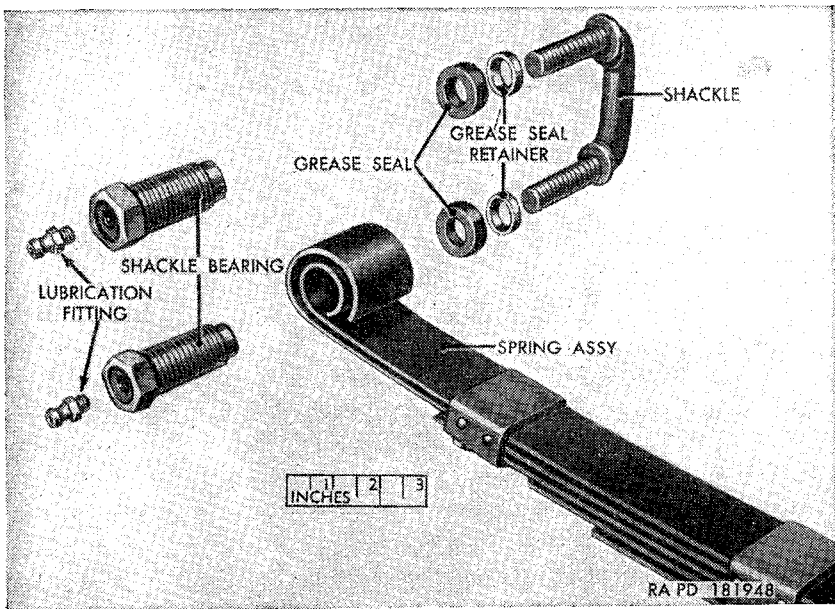

Figure 166. Spring shackle and spring shackle end of spring (M38A1)—exploded view.
- (3) Unscrew and remove the bushing-type shackle bearings (fig. 166).
- (3) Insert the bushing-type shackle bearings (fig. 166) and start the threads, making certain that the threads start on the shackle before they start on the inner threads of the spring eye, frame side rail, or spring shackle bracket. Take up on both bearings until tight, then back off the lower bearing about one thirty-second inch (one-third of a turn). Screw a lubrication fitting in the end of each bearing. Lubricate shackle as directed on the lubrication chart (fig. 29).